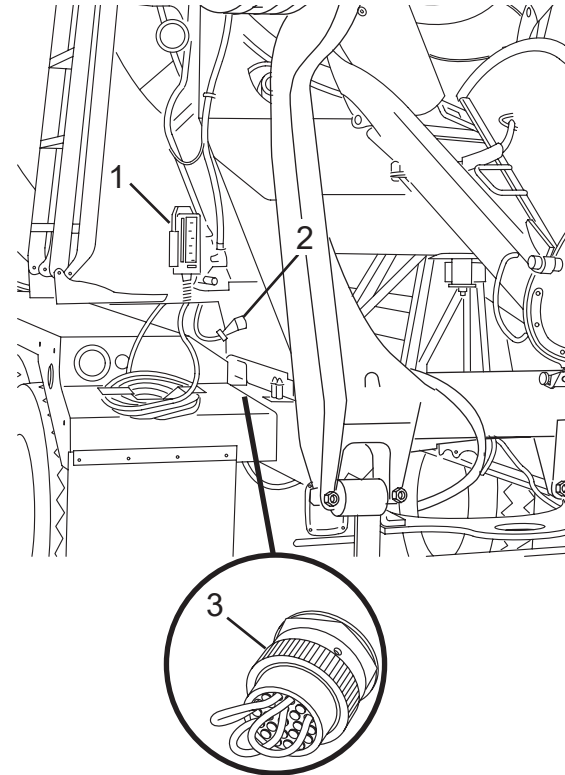

Figure 70
If the rear pendant (Figure 70, Item 1) is lost, or becomes damaged or faulty, a jumper plug (Figure 70, Item 3) must be installed in the rear pendant socket to allow operation of control functions from the cab control box.
2. Disconnect the rear pendant harness connector (Figure 70, Item 2) from the rear pedestal.
3. Install a jumper plug (Figure 70, Item 3) into the rear pendant harness connector. Purchase the jumper plug from www.streetsmartparts.com or by calling McNeilus Parts at 888-686-7278.